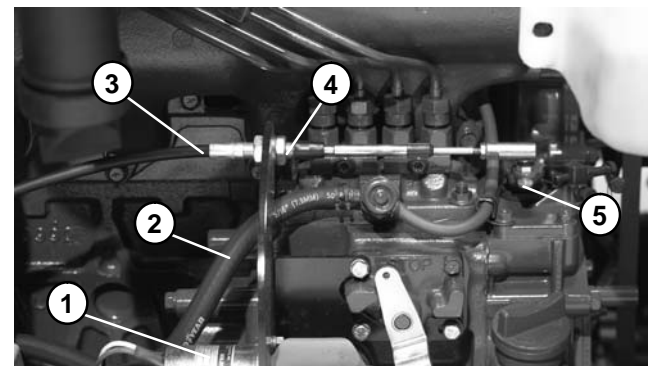

Figure 11
8. Disconnect fuel line from injection pump (Fig. 11).
9. Disconnect throttle cable from the speed control lever by removing the washer and lock nut. Loosen jam nut and take cable from mounting bracket (Fig. 11).
8. Connect throttle cable to the speed control lever with washer and lock nut. Install cable to mounting bracket (Fig. 11). Adjust throttle cable (see Operator's Manual).
9. Connect fuel line to the injection pump (Fig. 11).